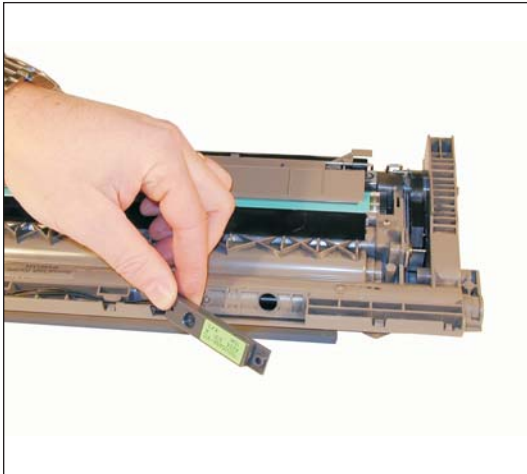

Figure 2
1) Gently pry off the toner sensor from the cartridge. Place in a Static proof bag for protection. Failure to do this will result in a damaged sensor, and the cartridge will not work properly. See Figure 2